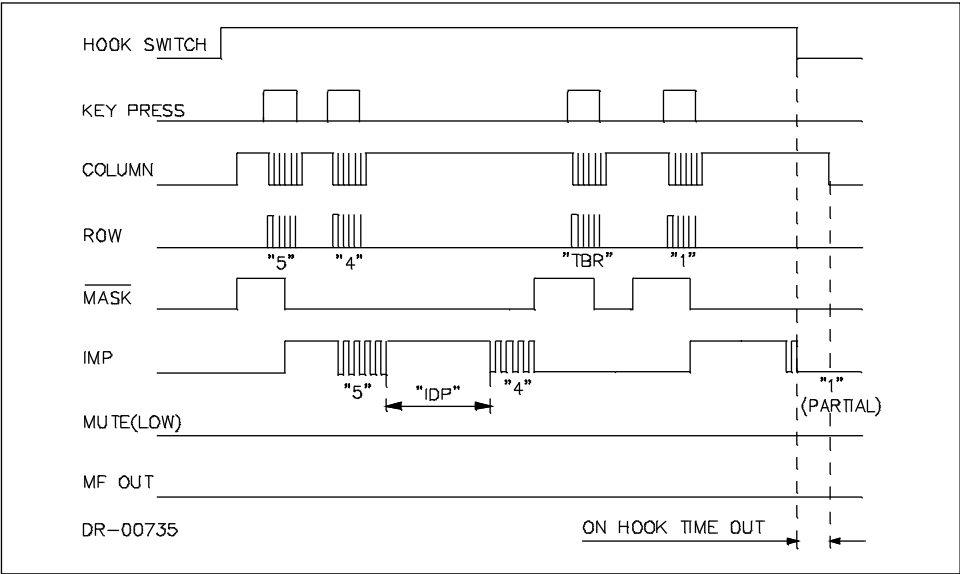

Figure 5: LD Mode Timing Diagram
**Off-hook state:** When the HSW input goes high, the  $\overline{\text{MASK}}$  output immediately goes to the logic '1' level and remains there until dialling starts (see Figure 5). COLUMN outputs also go high until a key is pressed. The oscillator circuit remains inactive until a key is pressed, and is normally off whenever timing functions are not required, hence reducing operating current.
### 10. Loop Disconnect Dialling (Figures 5 and 6)